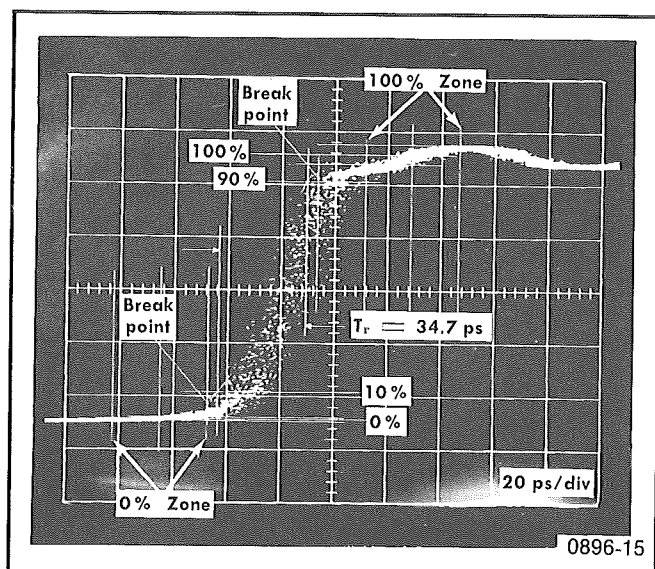

Figure 4-9. Combination of Type S-42 and Type S-52 risetime Measurement.
- (1) Mark the reference points at maximum rate of change. The break points are shown in Figure 4-9.